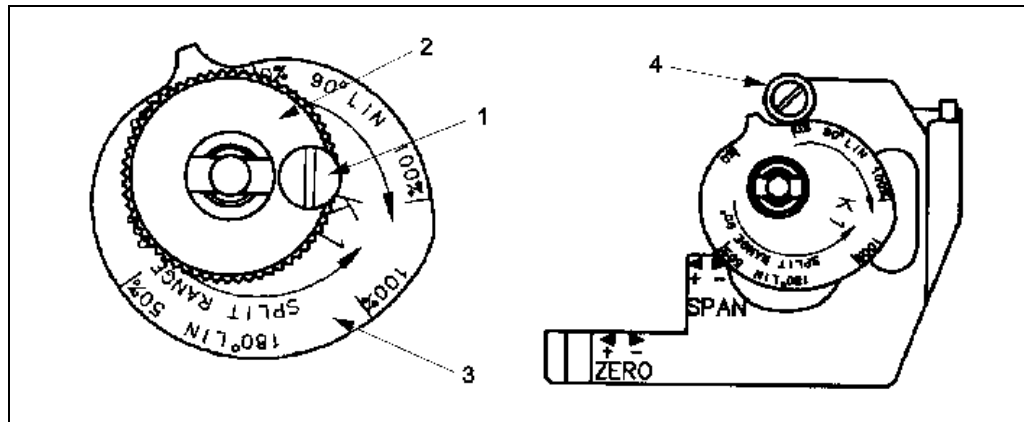

Figure 5 – Cam Adjustment
1. With the cover and indicator removed, loosen the screw (1) and turn the cam locking nut (2) counterclockwise until the cam loosens. See Figure 5.
2. Adjust the cam (3) as desired, making sure the ball bearing (4) is always riding on an active lobe on the cam.
3. Finger tighten the locking nut and tighten the screw (1).